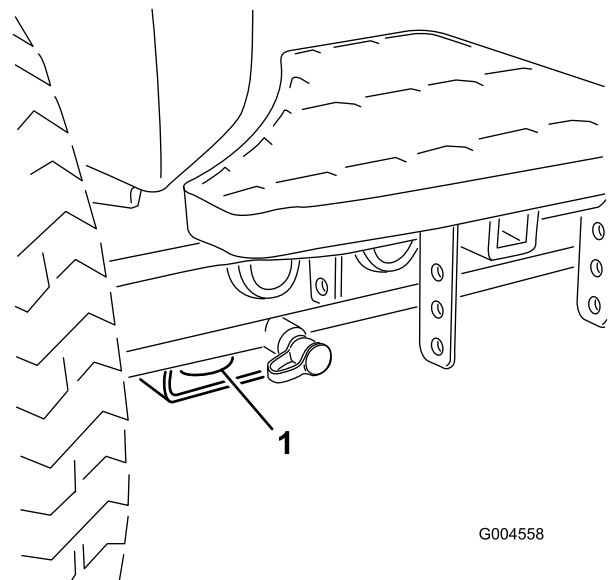

Figure 23
- **Front of the machine**—the hole in the rectangular pad, under the axle tube, inside each front tire (Figure 23).